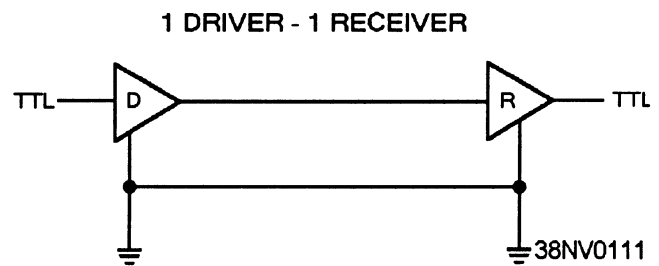

Figure 4-36.—Example of a single-ended line driver and receiver.
- Single-ended line drivers and receivers — Single-ended line drivers and receivers (fig. 4-36) are used for short distances. They have a single input and output at both the transmitting and receiving end. They are usually wire cables, possibly with an outer shield connected to ground. They are used for local transmission to external equipments (including computers) and for remote communications with modems.